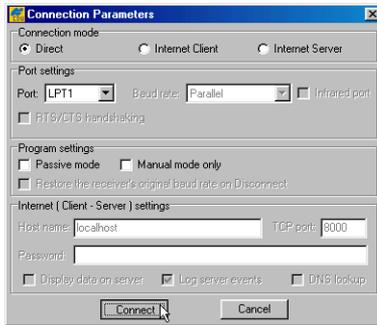

Figure 1-6. Parallel Port Connection Parameters
5. Press **Connect** (Figure 1-6).